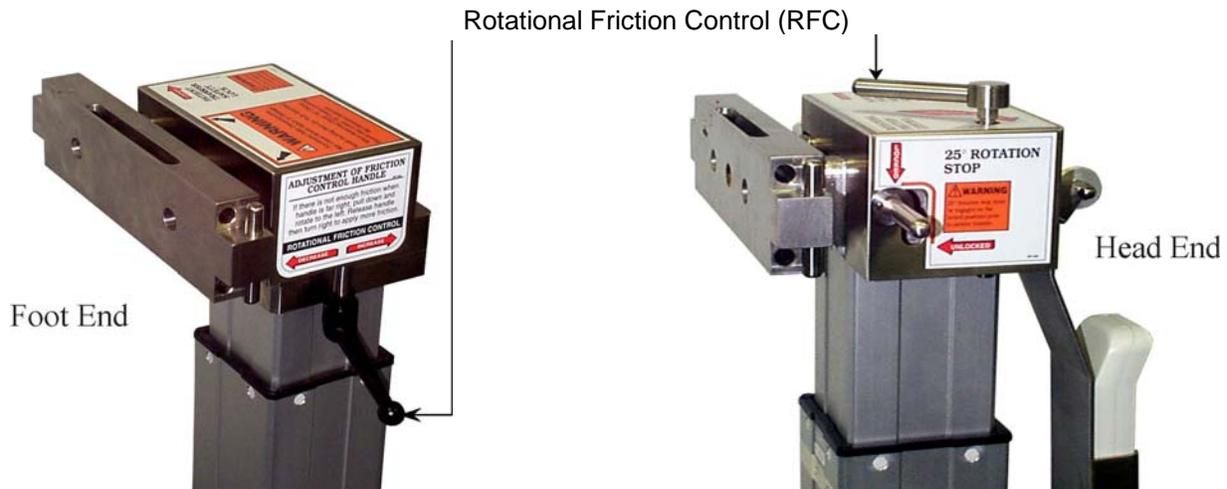

Figure 8: Rotational Friction Control
Each Base is equipped with a 25-Degree Rotation Stop (RS). (Fig.8) The RS is the lever located on the left side of the Control Box near the top of the Head End Column and can be easily activated with the left hand when standing at the Head End of the Table. When engaged, the RS prevents lateral rotation greater than 25-degrees from the horizontal position. It is recommended that when using the Table, the RS should be left in the engaged position and disengaged only when 180-degree rotation is intended.